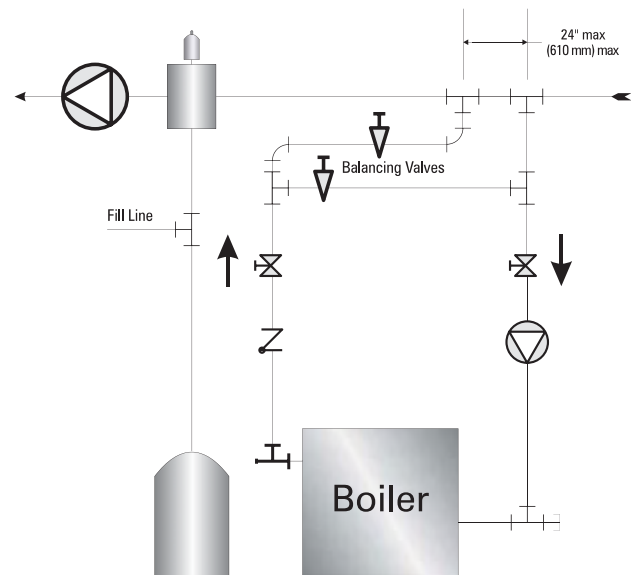
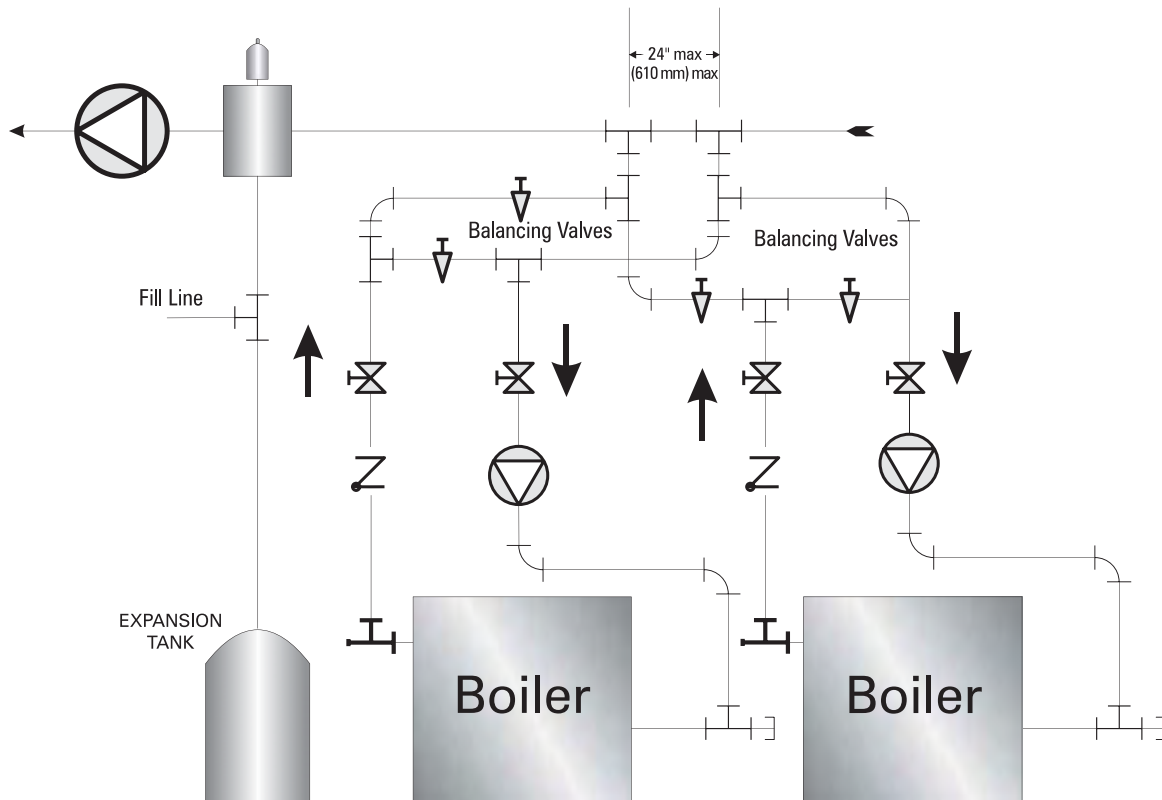
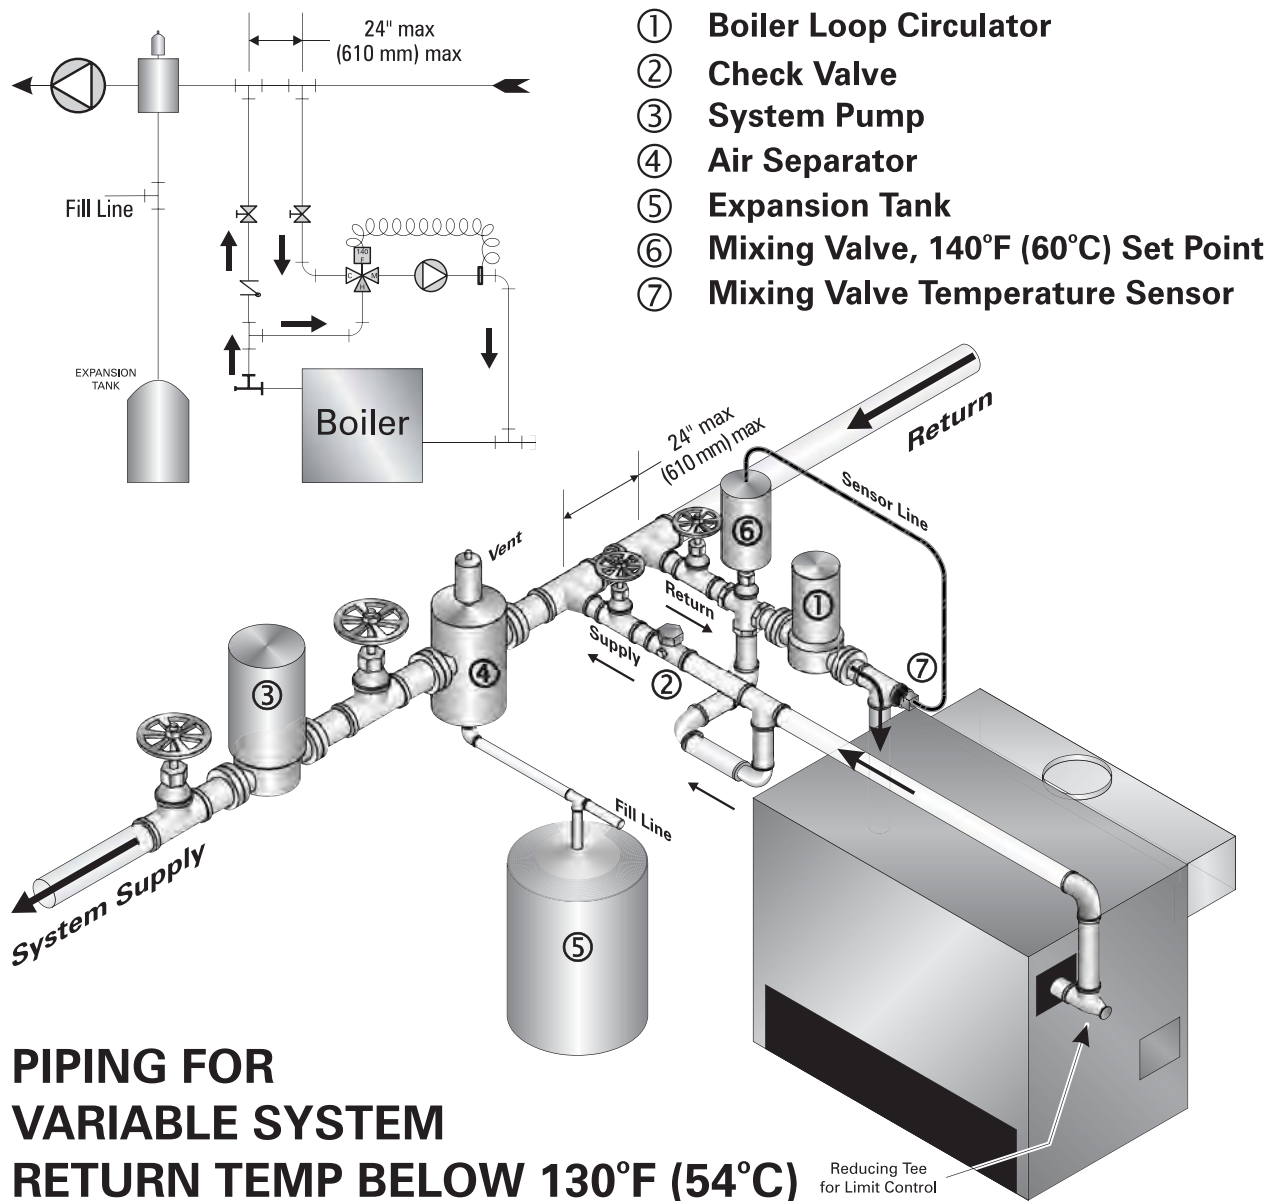
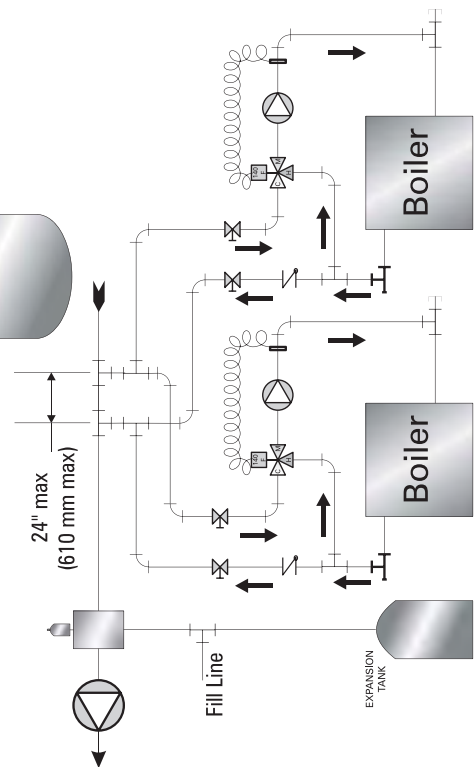

Figure 5.3: Fixed By-Pass Piping, Single Boiler
Figure 5.4: Fixed By-Pass Piping, Multiple Boilers
Figure 5.5: Piping for Variable Low Temperature, Single Boiler
Figure 5.8: Piping for Variable Low Temperature Systems, Multiple Boilers
- a. For systems with a relatively constant low operating temperature (such as heat pump systems), you can pipe a fixed flow by-pass arrangement as shown in Figure 5.3. The piping will not work for variable low temperature systems such as outdoor reset systems or primary/secondary systems with a large primary circuit temperature drop. See Figure 5.4 for multiple boilers.
- a. When the return water temperature from the system will vary (outdoor reset, snow melt, etc.) a fixed bypass will not work. Fixed bypass piping works by setting a high temperature rise through the boiler. As the system return temperature rises (during primary heating months, for example) the boiler will cycle on the limit control frequently, causing poor performance and excessive cycling. To protect the boiler and provide proper operation, install a temperature control valve and boiler circuit pump piped off of the system as a secondary loop. See Figure 5.5 for single boilers and Figure 5.8 for multiple boilers.
1. Multiple boilers should be piped in a secondary loop. Each boiler should be provided with its own pump and piped off of the secondary loop header. See Figure 5.7 for systems with return temperature above 130°F (54°C). For low temperature systems, see Figure 5.4 (constant low temperature systems) or Figure 5.8 (variable low temperature systems).